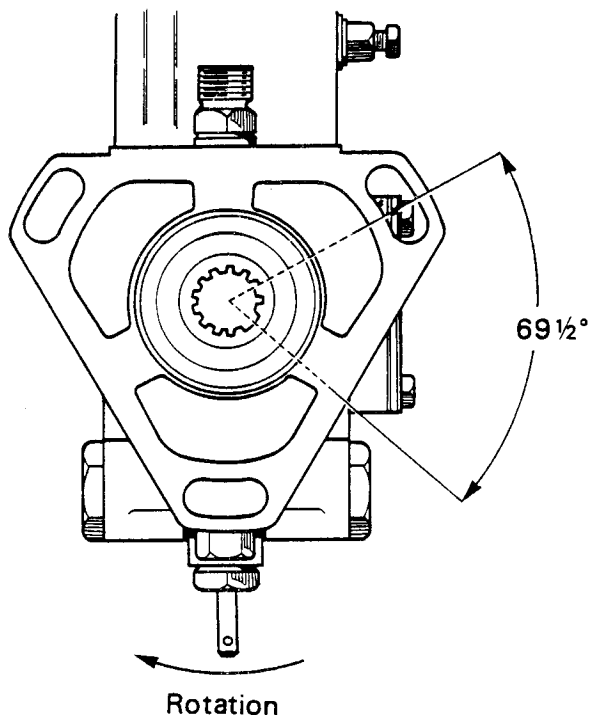

Figure 16. SETTING THE INJECTION PUMP
3. Measure $69\frac{1}{2}^\circ$ from the blank spline by means of the scale on the tool and mark the pump flange (Fig. 16).